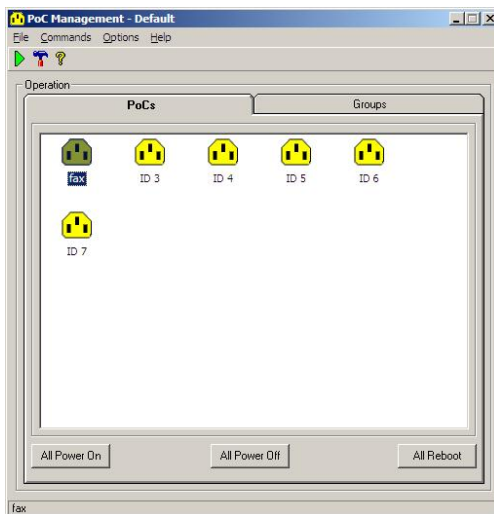

Figure 13 Operation window
4. Click Save. The group with the name underneath appears as an icon in the Operation window see Figure 13 on page 12.